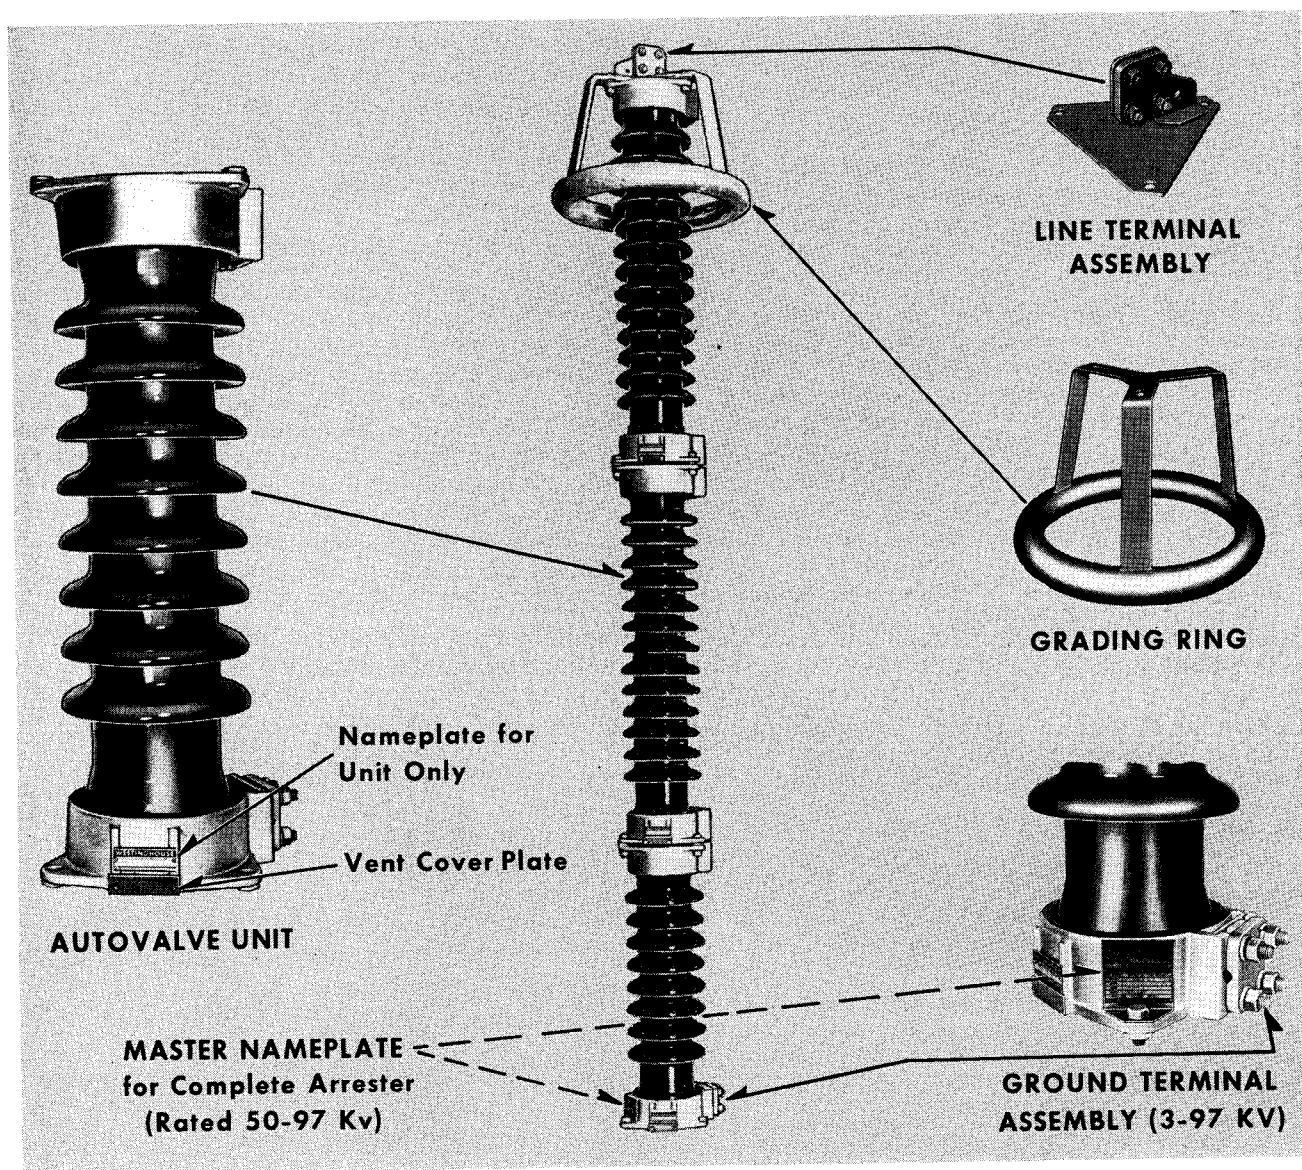
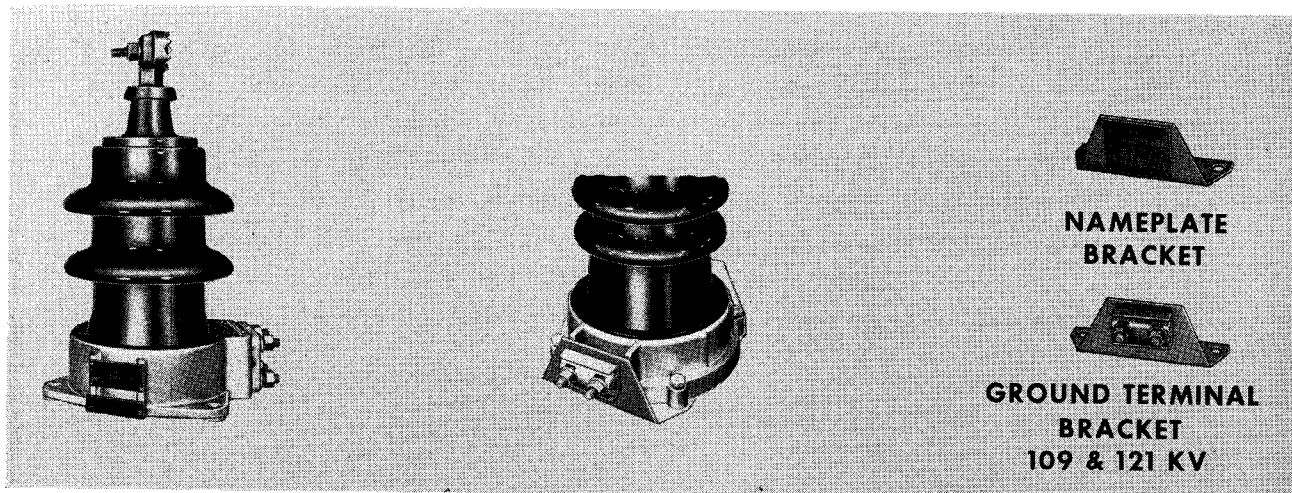

FIG. 1. Type IVS Autovalve Lightning Arrester and Component Parts
FIG. 2. Porcelain Top Unit
1. Arrester Units. These are the porcelain housings, containing the operating parts. Each unit is an arrester in itself. Units rated 3-15 KV have porcelain tops (Fig. 2) with integral line terminal and should not be used in arrester poles of more than one unit. Units rated 20-40 KV have metal castings at each end (Fig. 1). They may be used alone or in multiples until a maximum arrester rating of 121 KV is obtained (Fig. 1).
a. For arresters rated 3-97 KV, each standard unit incorporates the side venting pressure release device in its base. Each unit has a nameplate and a red vent cover plate attached to its base casting (Fig. 1). This nameplate identifies and gives the rating of that arrester unit only and not the complete arrester. Necessary mounting hardware is in a sack tied to one end casting.
2. Line Terminal Assembly (Fig. 1). Not used with porcelain top units.
3. Grading Ring Assembly (Fig. 1). Not used with arresters rated 73 KV and below.
4. Ground Terminal Assembly. For 3-15 KV ratings, it is supplied mounted on the arrester base casting (Fig. 2). For 20-97 KV ratings it is furnished separately. For 109 and 121 KV ratings, it is mounted on one of the two mounting feet (Fig. 4).
5. Master Nameplate. An L shaped nameplate is supplied with arresters rated 50-97 KV (Fig. 1). For arresters rated